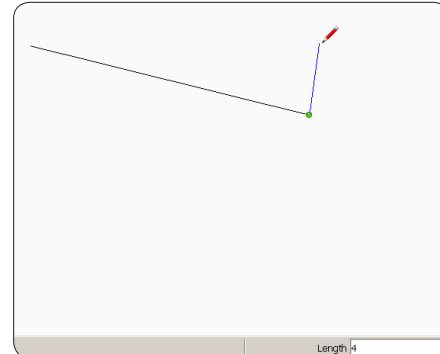

Figure 5. Drawing a 4-in.-long line on the blue axis.
Step 2 Continue a line upward, on the blue axis. Type 4 and press the Enter key. This creates the full height of the workbench end (Figure 5).